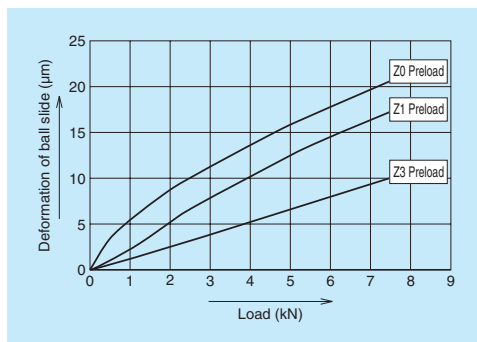

Fig. 3.3 Rigidity of SH35, downward direction load (example)
- Fig. 3.3 shows the relationship between the ball slide deformation and the external vertical load under a specified preload. SH35 is used as an example.